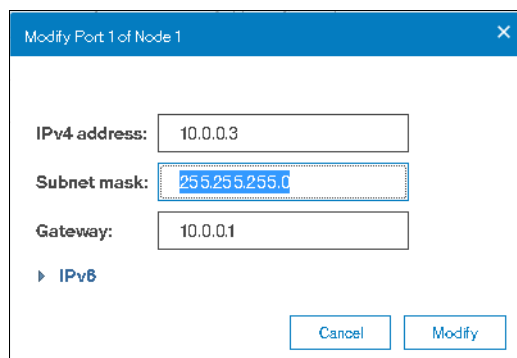

Figure 5-62 Enter an iSCSI IP address
- Click **Ethernet Ports** to enter the iSCSI IP address (Figure 5-62). Repeat this step for each port that you want to use for iSCSI traffic.